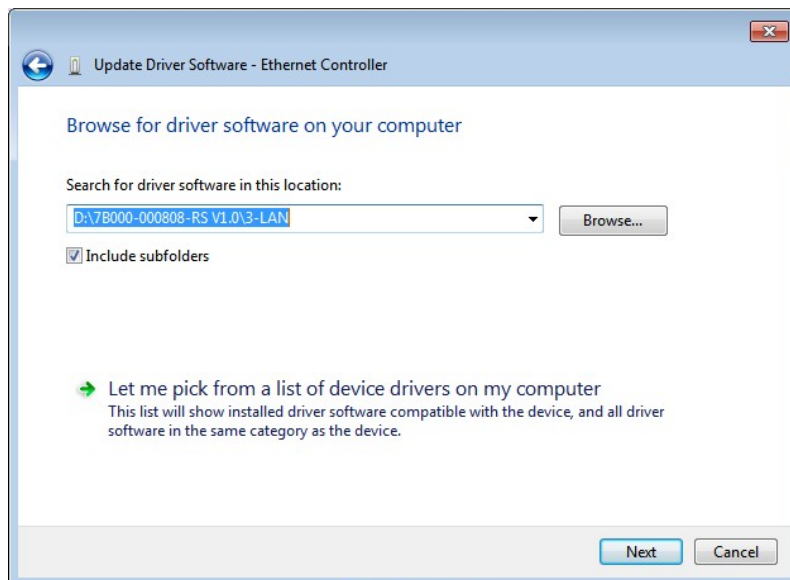

Figure 6-17: Locate Driver Files
Step 9: Click Browse to select “X:\3-LAN” directory in the **Locate File** window, where “X:\” is the system CD drive. (Figure 6-17).